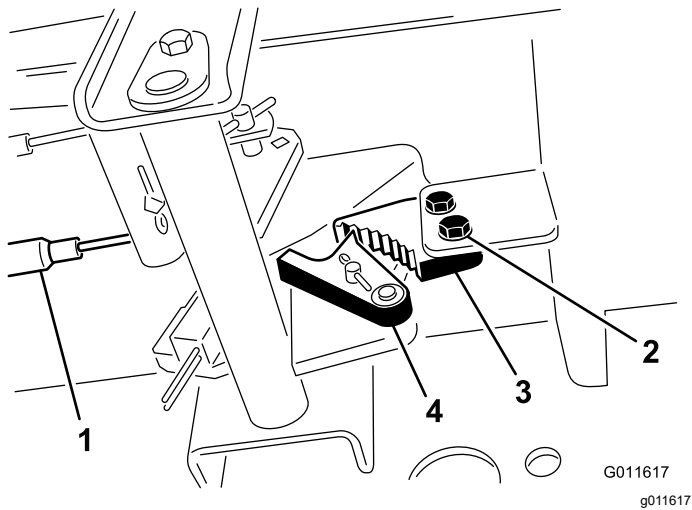

Figure 46
1. Loosen the 2 screws securing the parking-brake pawl to the frame (Figure 46).
2. Press the parking brake pedal forward until the brake detent completely engages on the brake pawl (Figure 46).